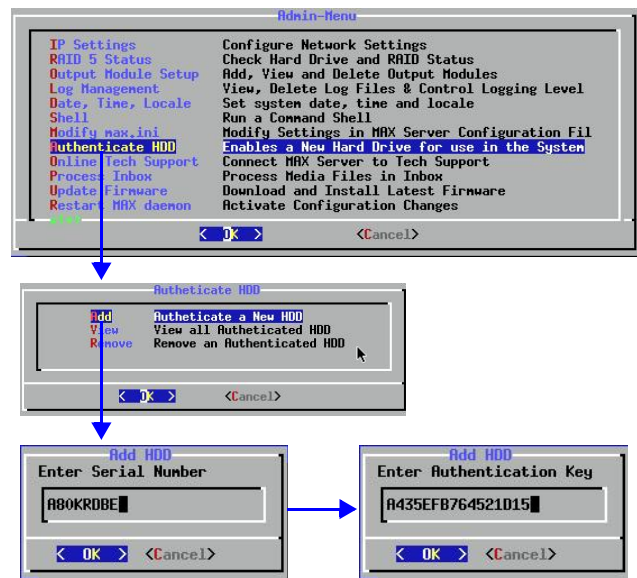

FIG. 5 Admin Menu, Authenticate HDD, and Add HDD dialogs
- After a brief delay, the *Admin Menu* is displayed (FIG. 5).
Use the other options in the *Authenticate HDD* menu (accessible via the Admin Menu on the MMS), to manage all HDDs in the server, as shown in FIG. 5.